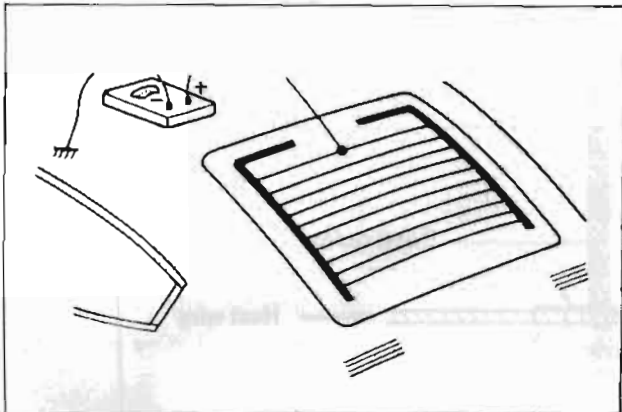

Fig. BE-45 Checking for broken heat wire with d-c voltmeter
(2) Method 2 -- Start the engine and turn on the window defroster system. With a d-c voltmeter setup shown in Figure BE-45, check each heat wire for discontinuity. If the meter indicates 12 volts or 0 on a specific wire, that line is broken. (Normal indication: 6 volts)